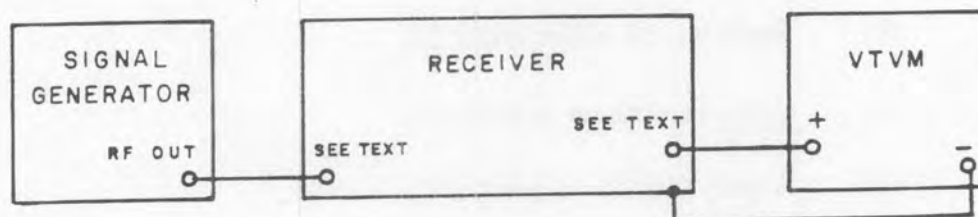

Figure 4-10. Test Setup for IF Amplifier Gain and AGC Threshold Alignment
- (1) Turn off the receiver power. Remove all three i-f amplifier boards and install i-f output amplifier board A6A5 on the extender card. Turn on the receiver power.
- (2) Turn R5 on A6A5 fully ccw (no agc).
- (3) Connect the signal generator (see Figure 4-10) to A6XA5 pin 21, (i-f input). Set the signal generator frequency at 21.4 MHz cw, and set the level at $500 \mu\text{V}$ (-53 dBm).
- (4) Connect the dc voltmeter (see Figure 4-10) to A6XA5 pin 2 (detector output).
- (5) Adjust gain potentiometer A6A5R1 for a reading of 1.25 V dc on the dc voltmeter.
- (6) Turn off the receiver power, and replace the i-f boards after first setting their gain potentiometers (see Table 4-4) fully clockwise (maximum gain).
- (7) Connect the signal generator to the i-f input, A6J1.
- (8) Connect the dc voltmeter to the i-f agc line at A6C11.
- (9) Set the signal generator at 21.4 MHz, unmodulated, at the level listed in the following table for each i-f bandwidth used.